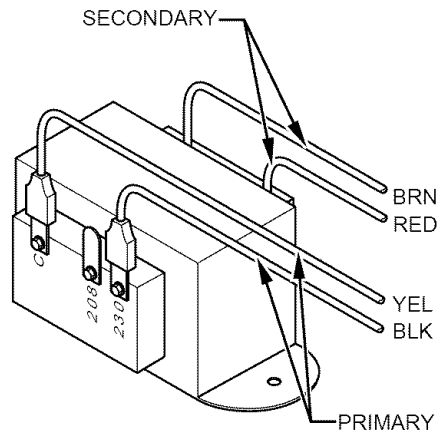

Fig. 13—Transformer Connections
2. Transformer Information—Transformer is factory wired for 230-v operation. For 208-v applications, disconnect black wire from 230-v terminal on transformer and connect it to the 208-v terminal. (See Fig. 13.)
Transformer is factory wired for 230-v operation. For 208-v applications, disconnect black wires from 230-v terminal on the transformer and connect them to the 208-v terminal. (See Fig. 13.)